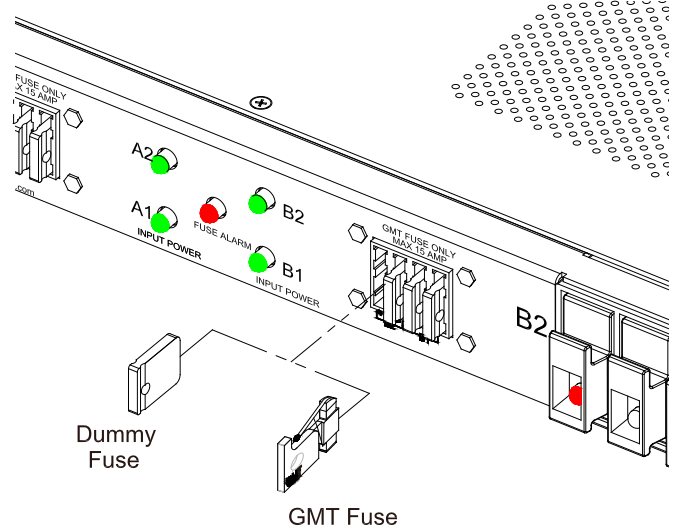

Figure 11 - Installing GMT Fuses
31. Make sure the load devices to be fed by the GMT fuses are disabled and then install the GMT fuses by pulling out the dummy fuse, and inserting the operable fuse, as shown in Figure 11.